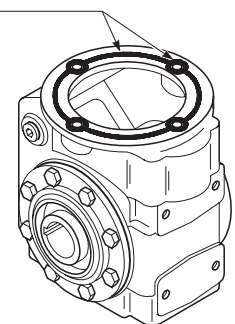

Figure 6
7. Apply liquid gasket material (Loctite® 518, Falk Part # 2918376) furnished to flange face of basic housing as illustrated in Figure 6, Page 5.
7. Apply liquid gasket material (Loctite 518, Falk Part # 2918376) furnished to flange face of basic housing as illustrated in Figure 6, Page 5. **Caution** — This step must be followed to prevent leakage.
8. Apply liquid gasket material (Loctite 518, Falk Part # 2918376) furnished to flange face of basic housing as illustrated in Figure 6, Page 5.